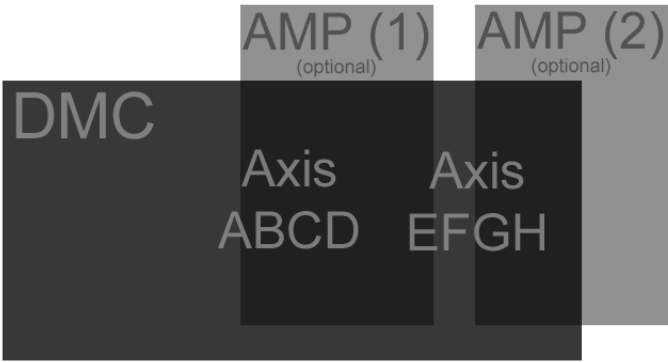
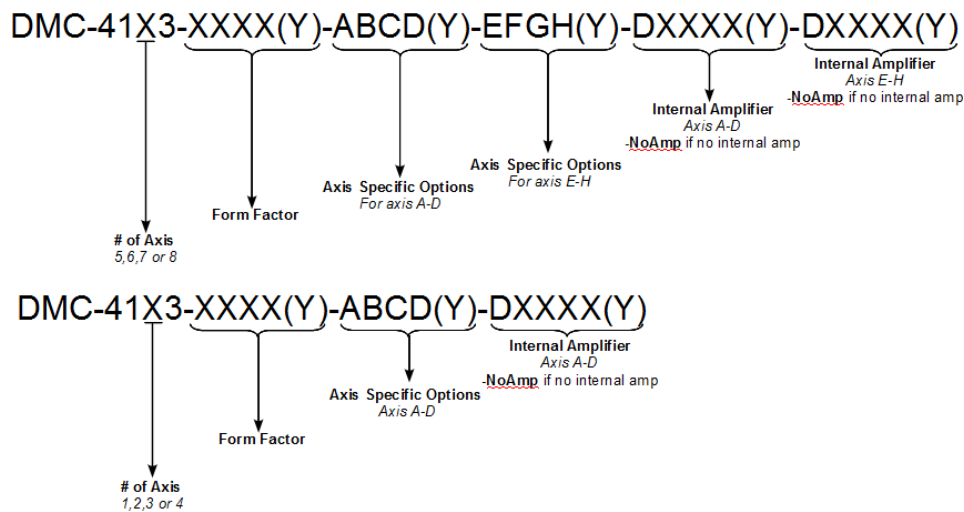

Figure 1.2: Abstract layout of a 5-8 axis DMC-41x3 and optional internal amps
Figure 1.3: Layout of the full DMC-41x3 part number
The 5-8 axis models have room for an additional bank of internal amplifiers as shown in Figure 1.2.
The full DMC-41x3 part number is a combination of the DMC controller part number (DMC-41x3), form factor ("-XXXX(Y)), axis-specific options (-ABCD(Y) and -EFGH(Y)), and optional amplifier types (-DXXXX(Y)), where Y is customization options for that specific board or set of axis. The layout of the full DMC-41x3 part number is shown in Figure 1.3 below.
The placement of the AMP/SDM options is extremely important for 5-8 axis models. Reading the DMC-41x3 part number in Figure 1.3 from left to right, the first AMP/SDM (Axis A-D) will be placed in the AMP(1) spot as shown in Figure 1.2 and the second AMP/SDM (Axis E-H) will be placed in the AMP(2) spot.